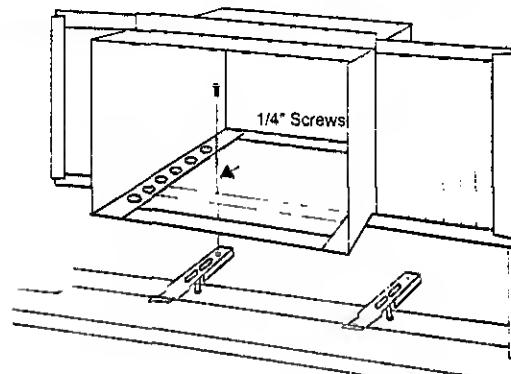

Fig. 17
A Align one hole in the bottom of the cabinet with one hole in the bracket assembly. Secure the cabinet to the bracket using (3) 1/4" screws provided. Repeat the same procedure on the opposite side of the cabinet. See (Fig. 17)